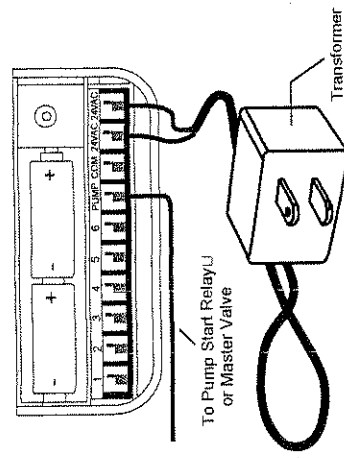

FIGURE 20: Connecting Pump Start, Master Valve and Transformer
- Plug in the transformer [See Figure 20].